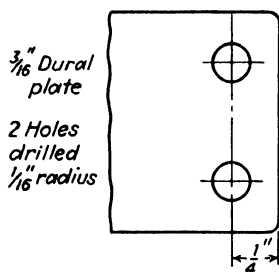

Fig. 221.
4. What is the bearing strength of the fitting in Fig. 221?